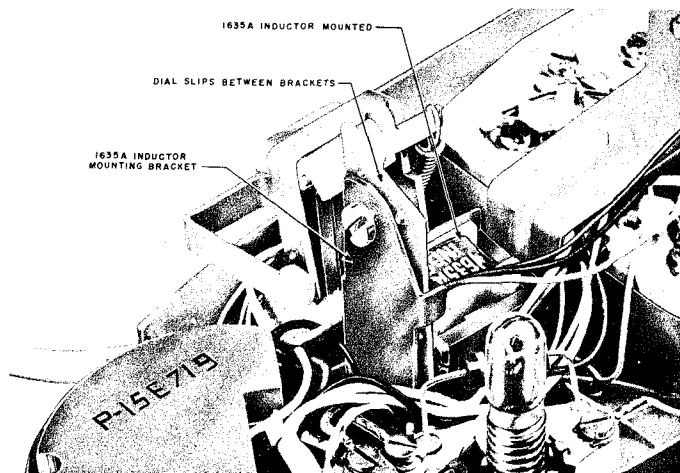

Fig. 14 — 1635A Inductor Mounted in
3. Insert inductor as shown in Fig. 14.
5. Mount dial assuring that the dial mounting lug is between the 1635A inductor bracket and the dial mounting bracket. (See Fig. 14).